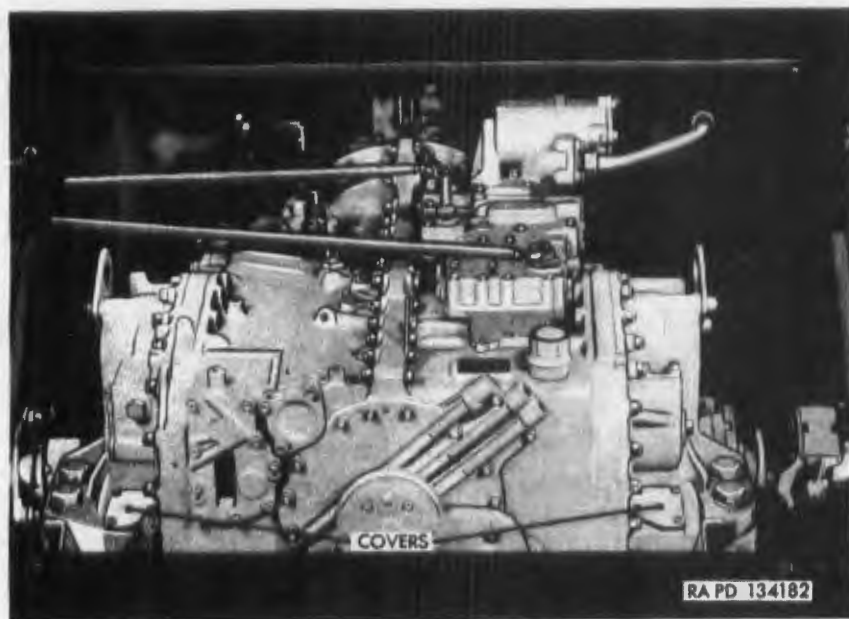

Figure 189. Brake adjustment cover location.
- (10) Remove six self-locking hex-head bolts that secure brake adjustment covers (fig. 189) on rear of transmission, and remove covers.
- (11) Two men are required to perform the final brake adjust-
- (1) Station a man in the driving compartment to apply and release the brake pedal when signaled to do so.
- (2) Remove six self-locking hex-head bolts and remove brake adjustment covers (fig. 189) at rear of transmission.
- (6) Position brake adjustment covers (fig. 189) on transmission and secure covers with six $\frac{5}{16}$ x $\frac{7}{8}$ self-locking hex-head bolts.
- (7) Install personnel heater duct in driving compartment (par. 262d).